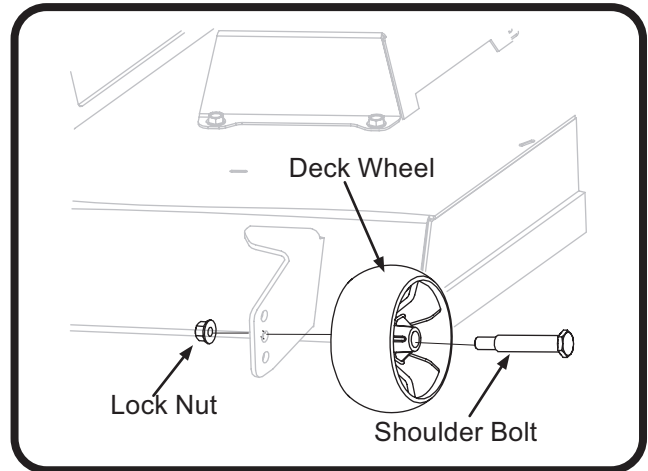

Figure 8.25
4. Reposition the ball wheel to align with the one of the index holes that places the wheel 1/4” to 1/2” above the ground. See Figure 8.25.